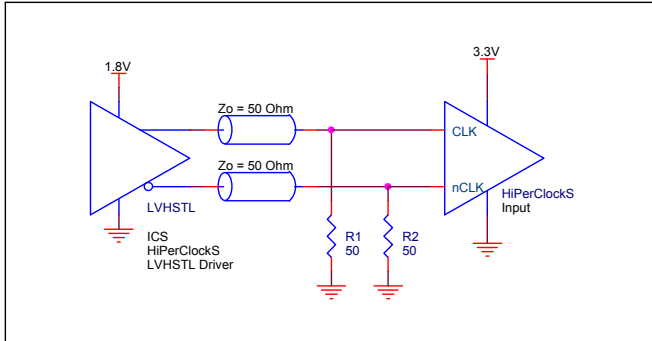

**FIGURE 2. SINGLE ENDED SIGNAL DRIVING DIFFERENTIAL INPUT**
*Figure 2* shows how the differential input can be wired to accept single ended levels. The reference voltage  $V_{REF} = V_{CC}/2$  is generated by the bias resistors R1, R2 and C1. This bias circuit should be located as close as possible to the input pin. The ratio